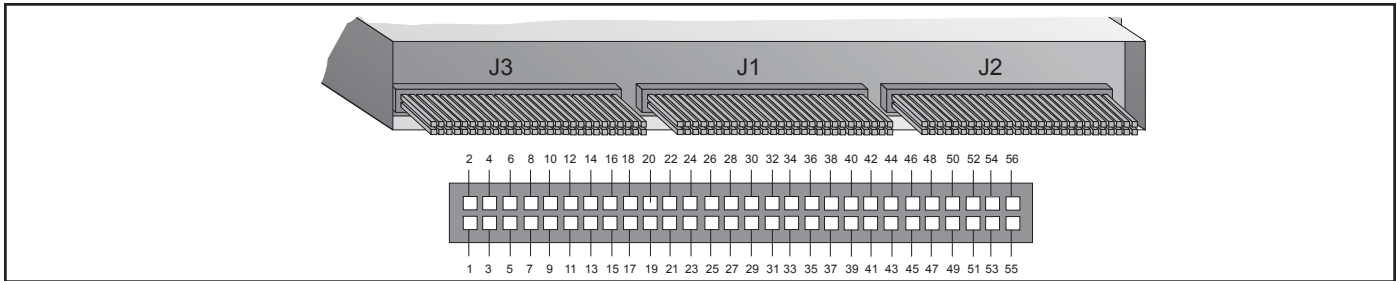

Fig. 4.2 - Wire Wrap Pins are Accessible at Rear of KDA Chassis
2. Refer to the J1 and J2 pin layout drawings (Fig. 4.2 and Table 4.A and 4.B) in Section 4 -Hardware Connections for all wire wrap pin designations.